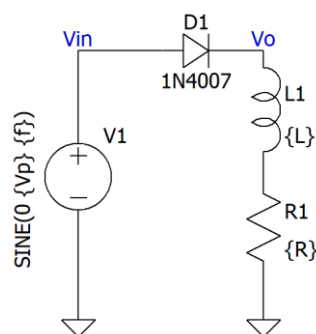

Figure 3.3 HWR with inductive load
1. Connect the Circuit as shown in Figure 3.3.